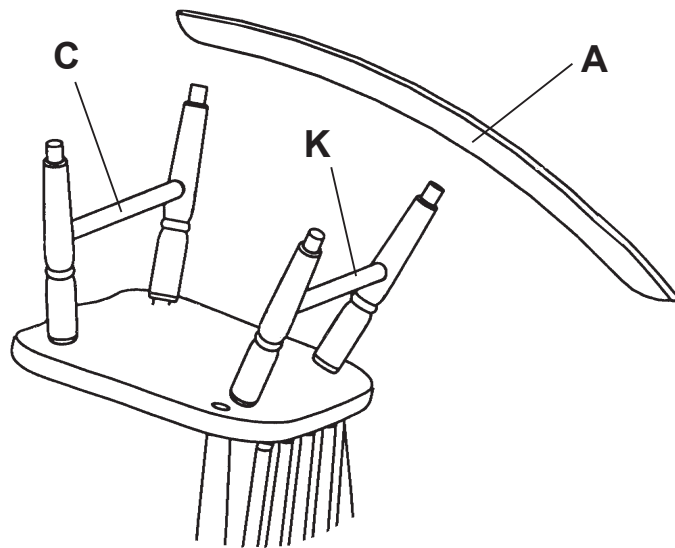

FIG. 5
- 5) Spread glue in the holes of the Rocker Runners (A). To put the runners on the legs, place the front hole on the front leg first, and the back hole on the back leg. There should be a little give if the holes don't quite line up, so that the back leg can be pushed slightly toward the front leg. See FIGURE 5.